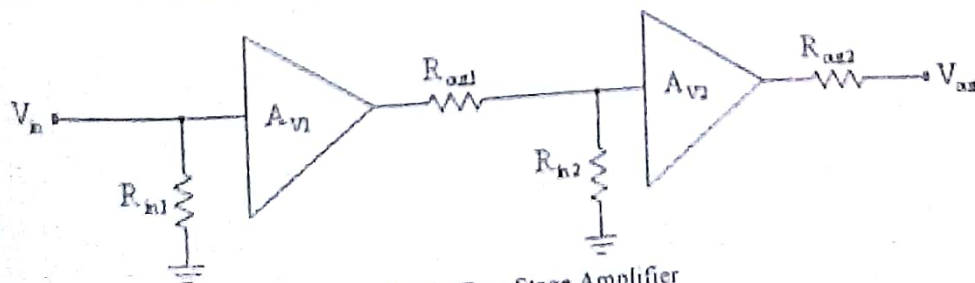

Fig.2: Two-Stage Amplifier
5. Compute the overall gain of the amplifier. It is easier to calculate the voltage gain of a multistage amplifier by computing the unloaded voltage gain for each stage, then including the loading effect by computing voltage dividers for the output resistance and input resistance of the following stage. This idea is illustrated in Figure 2. Each transistor is drawn as an Amplifier consisting of an input resistance, R_{in} , an output resistance, R_{out} , along with its unloaded gain, $A_{V(NL)}$. Then, the overall loaded gain, A_V , of this amplifier can be found by: